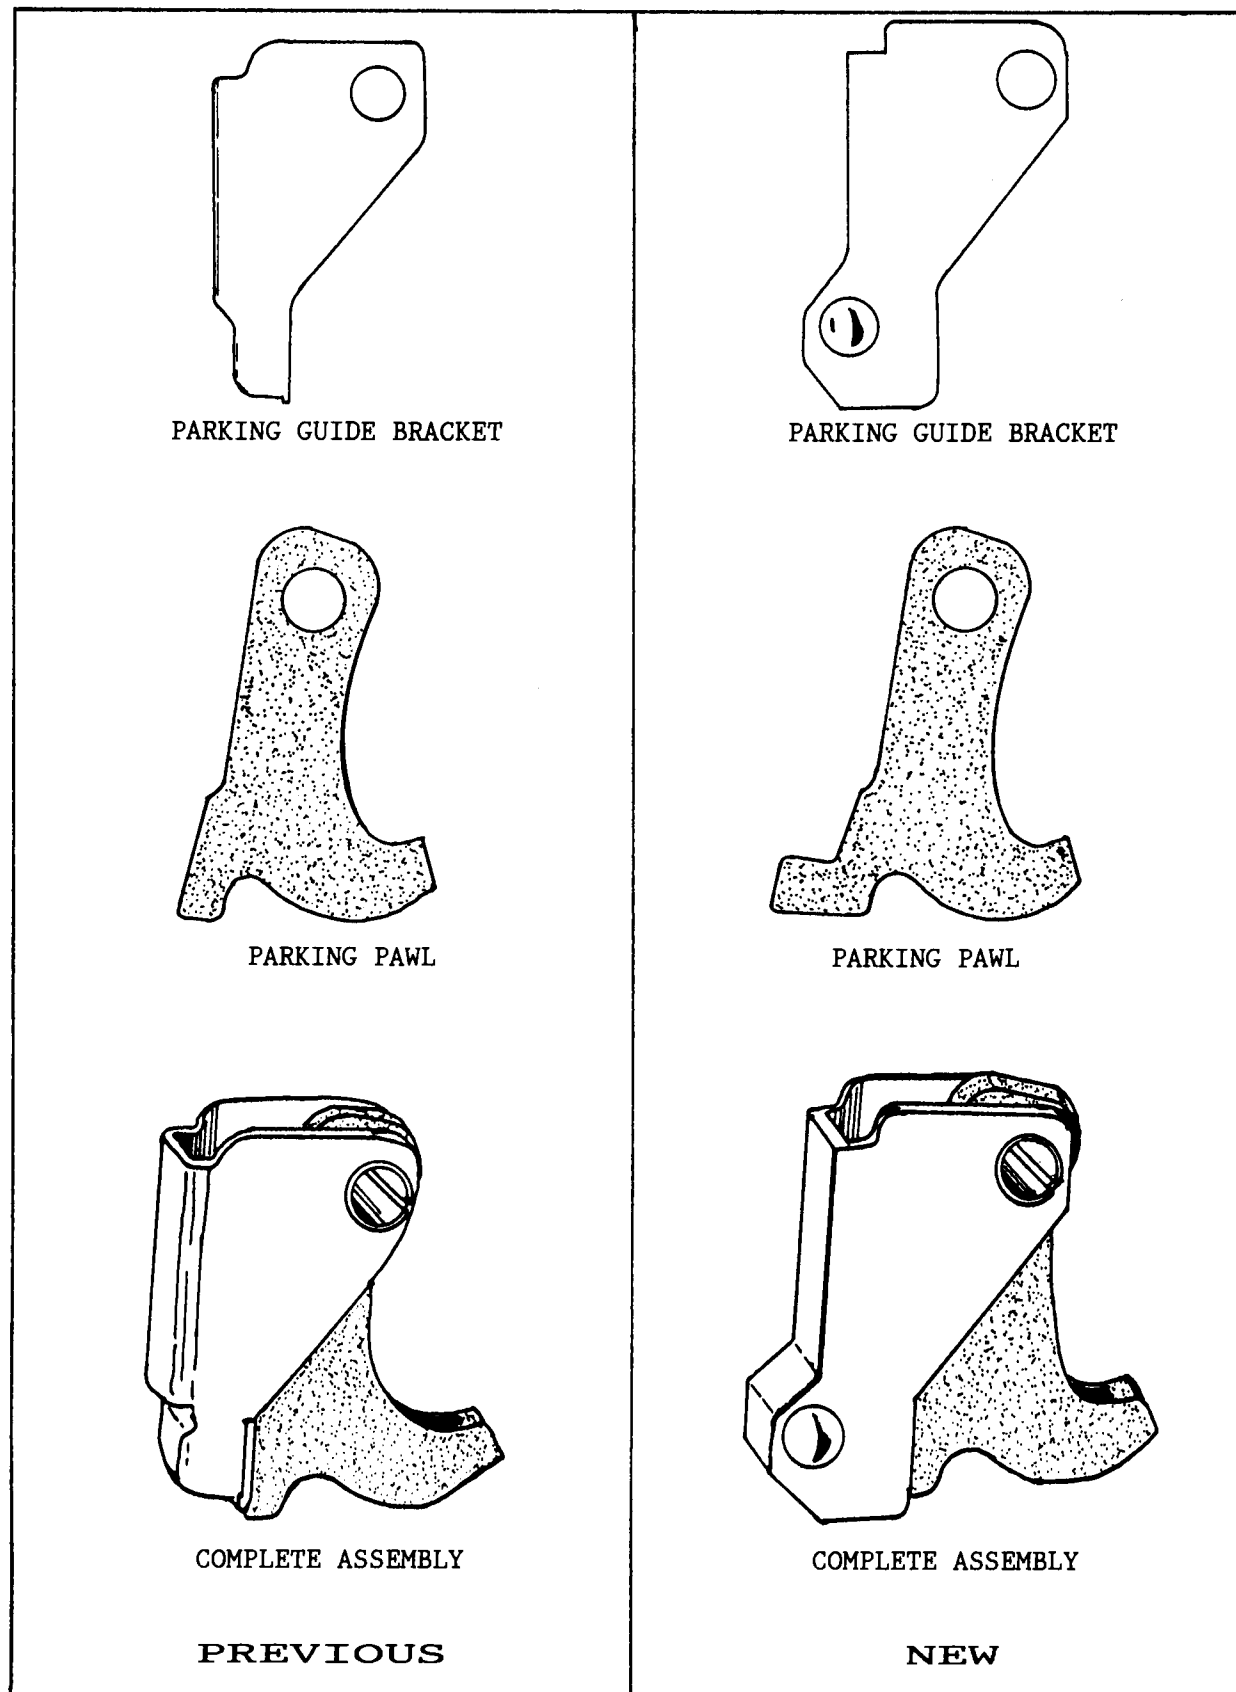

Figure 6
CHANGE: A new Parking Sprag Guide Bracket and Parking Pawl has been introduced as a 1989 running change (See Figure 6).
- (1) **PARKING GUIDE BRACKET** - Previously the Parking Guide Bracket was a stamped steel unit, and has been replaced by a high quality casting, along with dimensional changes. See Figure 6 for identification.
- (2) **PARKING PAWL** - The new Parking Pawl, or "Boot", also required some dimensional changes. The heel of the new "Boot" is wider than the previous models, as shown in Figure 6.
The new parts will retro-fit back to all previous models, but both pieces must be replaced as an assembly. (See Figure 6).